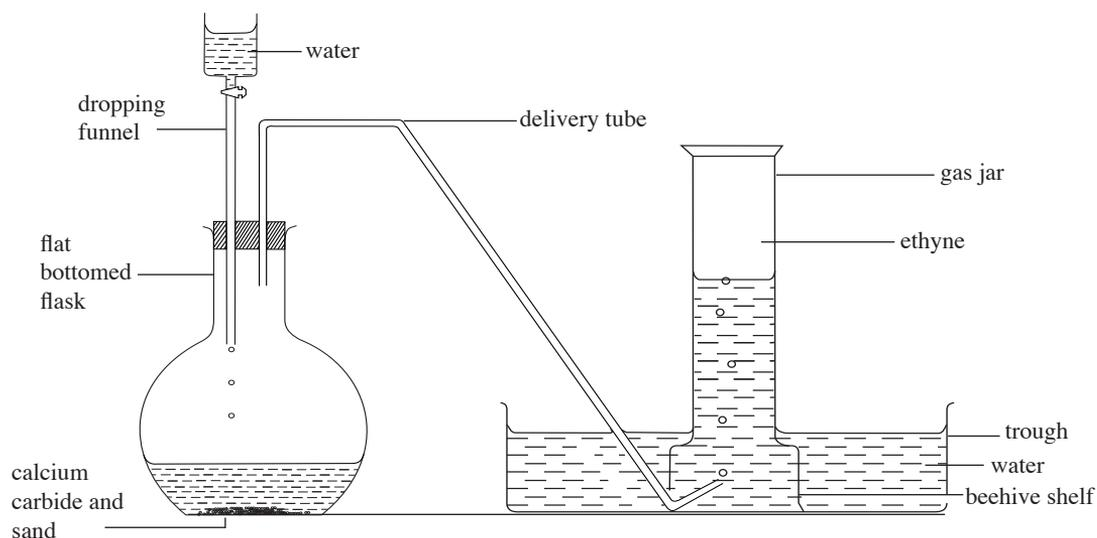

Fig. 6.6: Laboratory preparation of ethyne
3. Add water dropwise to produce a steady flow of the gas as illustrated in Fig. 6.6.